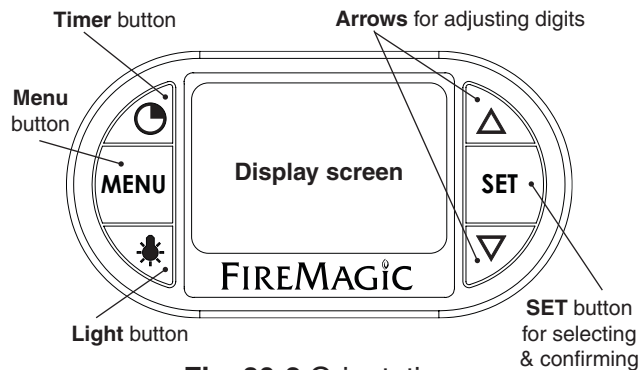

Fig. 30-2 Orientation
Read the following sections completely regarding thermometer operation. Refer to Fig. 30-2 for thermometer orientation and button locations.
1. Press the light button to turn both the interior oven lights and knob backlights **ON** (see Fig. 30-2). The interior oven lights will temporarily shut off when the hood is closed (except for Magic View models).